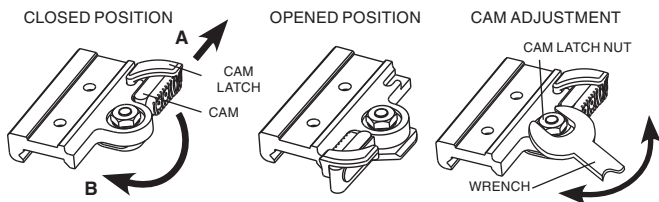

FIGURE 2-4. QUICK RELEASE MOUNT
3. To open the sight Quick Release Mount , slide the cam latch forward (Figure 2-4, arrow A) and turn the cam backward (arrow B).
6. The Quick Release Mount may be adjusted to eliminate excessive play when mounted on the rail by using the provided Allen key (Figure 1-1, 13) to increase/decrease the cam latch nut (Figure 2-4).